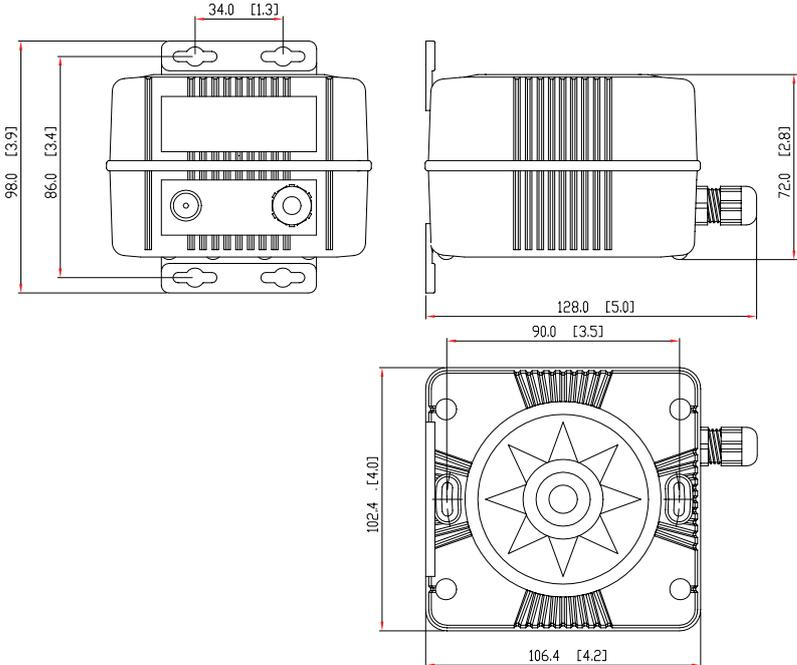

Figure 8-4 RFC35 Fluxgate Compass - Dimensions
- Dimensions: See Figure 8-4
Dimensions: Same as RFC35. See Figure 8-4